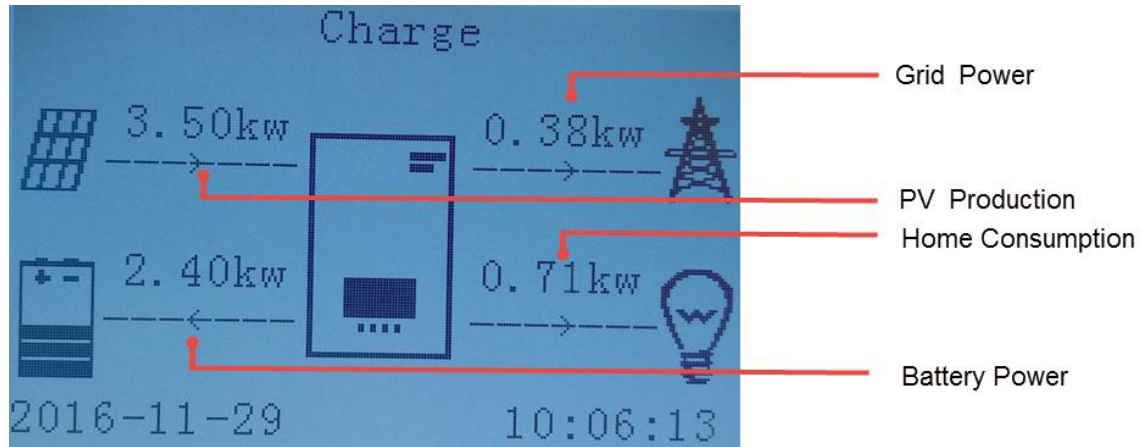

Fig 15. Screen of ME3000SP
- 2) Make sure the electricity consumption in ME3000SP’s phase is greater than 200W. “Grid import power” shall equal “Home Consumption” now. (fig 15)
- 3) Turn ON PV inverter. “PV Production” shown on ME3000SP shall equal total power generation in ME3000SP’s phase now. (fig 15)
While "PV Production" > "Home Consumption" (fig 15)
While "PV Production" < "Home Consumption" (fig 15)